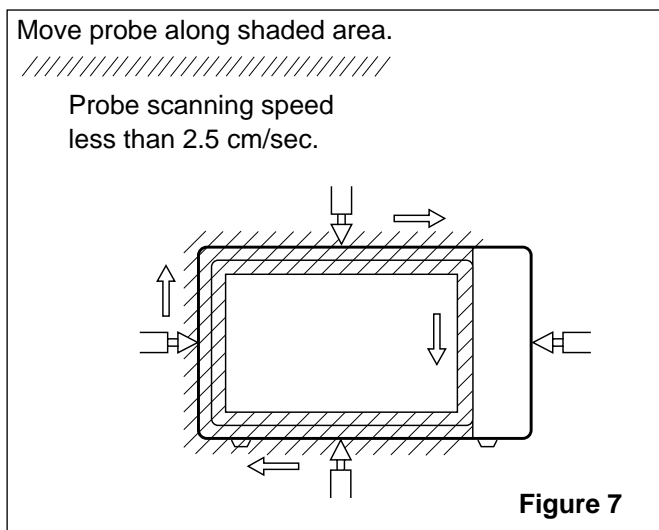

Figure 7
- (1) Pour 275 ± 15cc of 20 ± 5°C water in a beaker which is graduated to 600 cc, and place the beaker in the center of the oven.
- (2) Set the energy leakage monitor to 2,450 MHz and use it following the manufacturer's recommended test procedure to assure correct result.
- (3) When measuring the leakage, always use the 2 inch (5cm) spacer supplied with the probe.
- (4) Operate the oven at its maximum output.
- (5) Measure the microwave radiation using an electromagnetic radiation monitor by holding the probe perpendicular to the surface being measured. (See Figure 7)